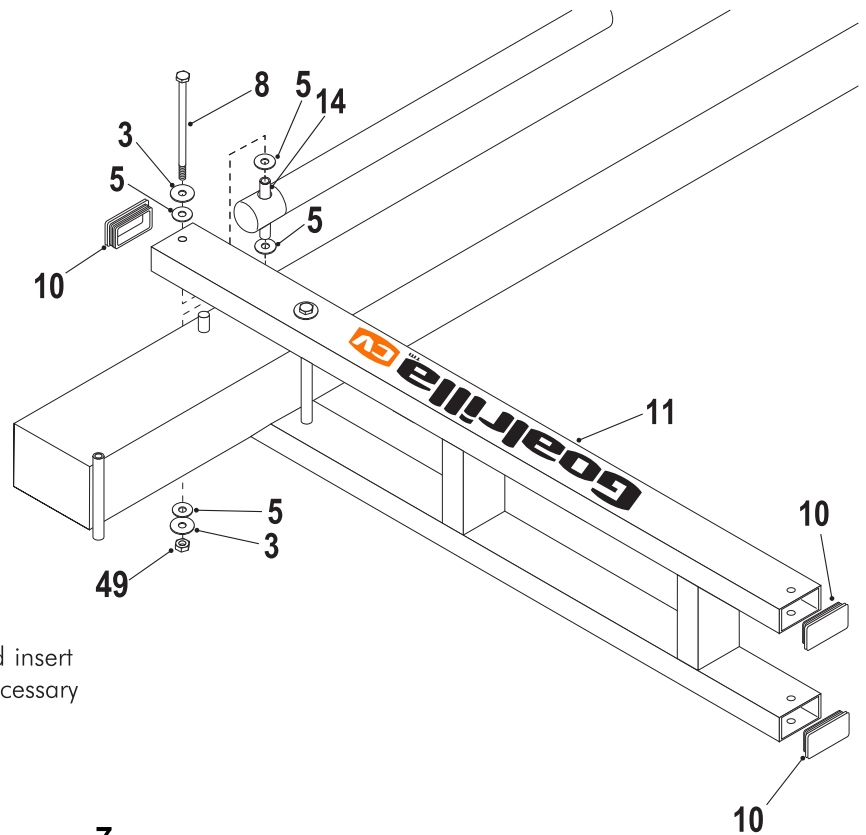

Figure 6
- Secure Actuator (#16) to Lower Arm (#11) using one bolt (#8), two flatwashers (#3), four plastic washers (#5) and one thin locknut (#49). See Figure 6. Tighten both bolts (#8) snug but, do not over tighten. Board Arms must pivot freely.